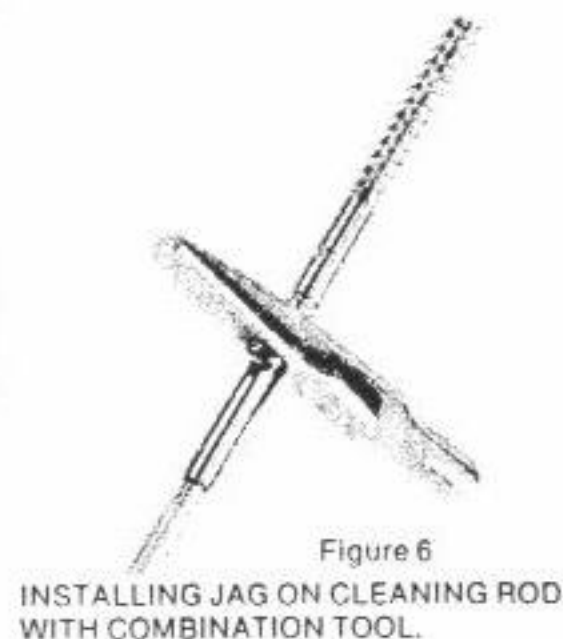

Figure 6
3. Install the jag or brush on the threaded end of the cleaning rod. (See Figure 6 to install jag with combination tool.)